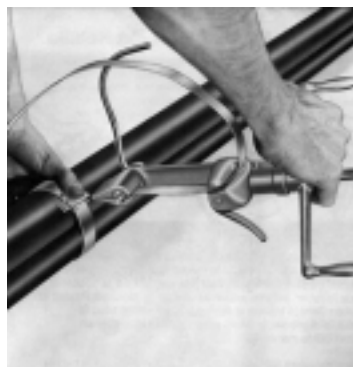

Fig. 2.15. Removing tool
- Remove tool, holding stub of band down with thumb (Fig. 2.15.).